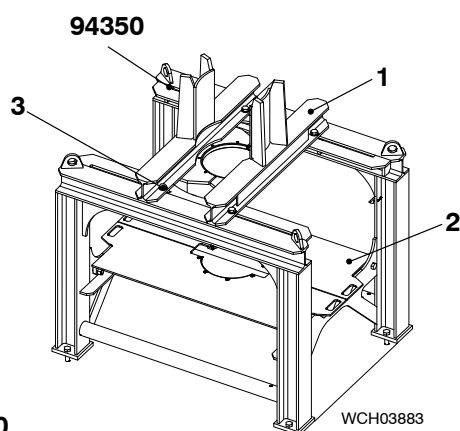

Fig. 10
- 26) Make sure that the piston support tool (94350, Fig. 10) is in the correct position on the top platform.
- 27) Loosen the four screws (3).
- 28) Move fully out the two supports (1).
- 29) Lift and lock the plates (2) in the vertical position.
- 16) Loosen the screws (3, Fig. 10) on the piston support tool (94350) and push the supports (1) fully out.
- 17) Turn and lock the two plates (2) up before the piston rod foot touches them.